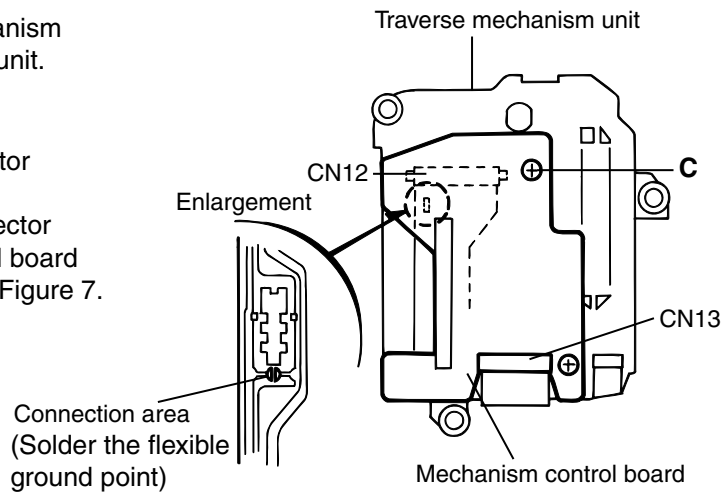

Figure 6
(refer to Figures 6 - 7)
- o Solder the flexible ground point on the optical pickup. (Figure 6)